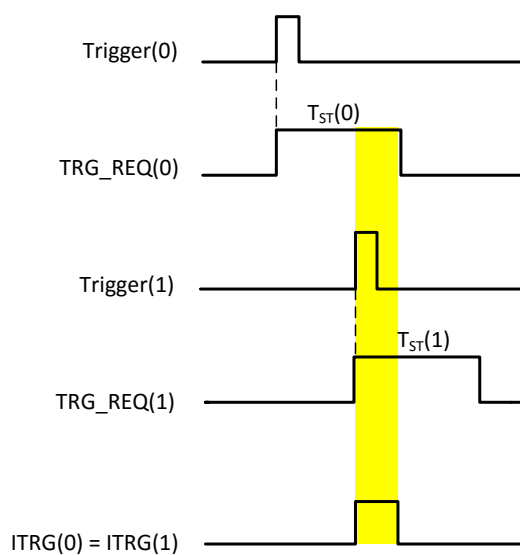

Fig. 2.7: Generation of $ITRG(0) = ITRG(1) = (TRG_REQ(0) \& TRG_REQ(1))$ for channel 0 and channel 1
Fig. 2.7 shows the case where ITRG(0) and ITRG(1) are set as the AND between channel 0 and channel 1 (i.e. $ITRG(0) = ITRG(1) = (TRG_REQ(0) \& TRG_REQ(1))$). In this specific case the ITRGs are in time with the TVAW(i) and the TRG_VAL(i) enables the writing of the i channel into memory.